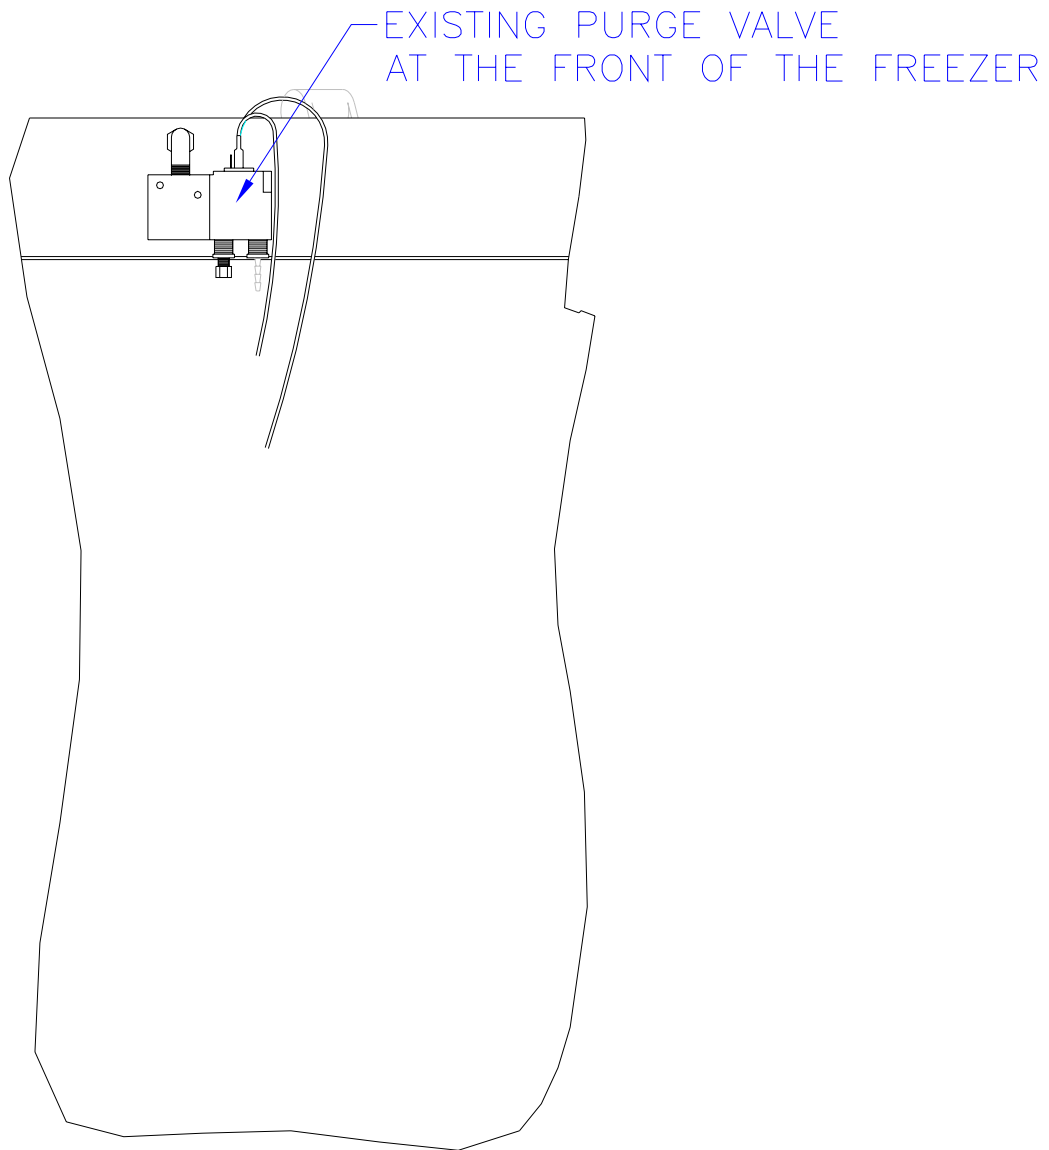
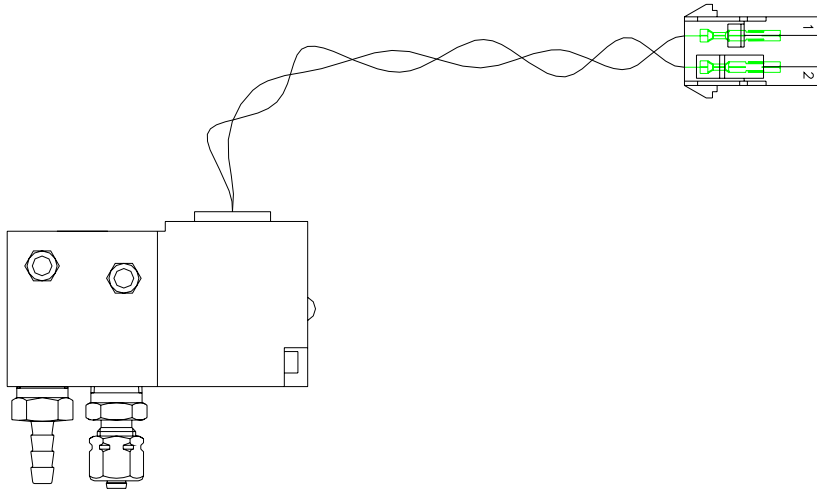

Figure 3, PURGE VALVE DETAIL
Figure 7, NEW PURGE VALVE ASSEMBLY
19. Remove the existing purge valve (Reference Figure 3) and replace with the new purge valve assembly provided (reference Figure 7), making sure to use Teflon tape on the pipe threads and to reconnect the copper and vinyl tubing.